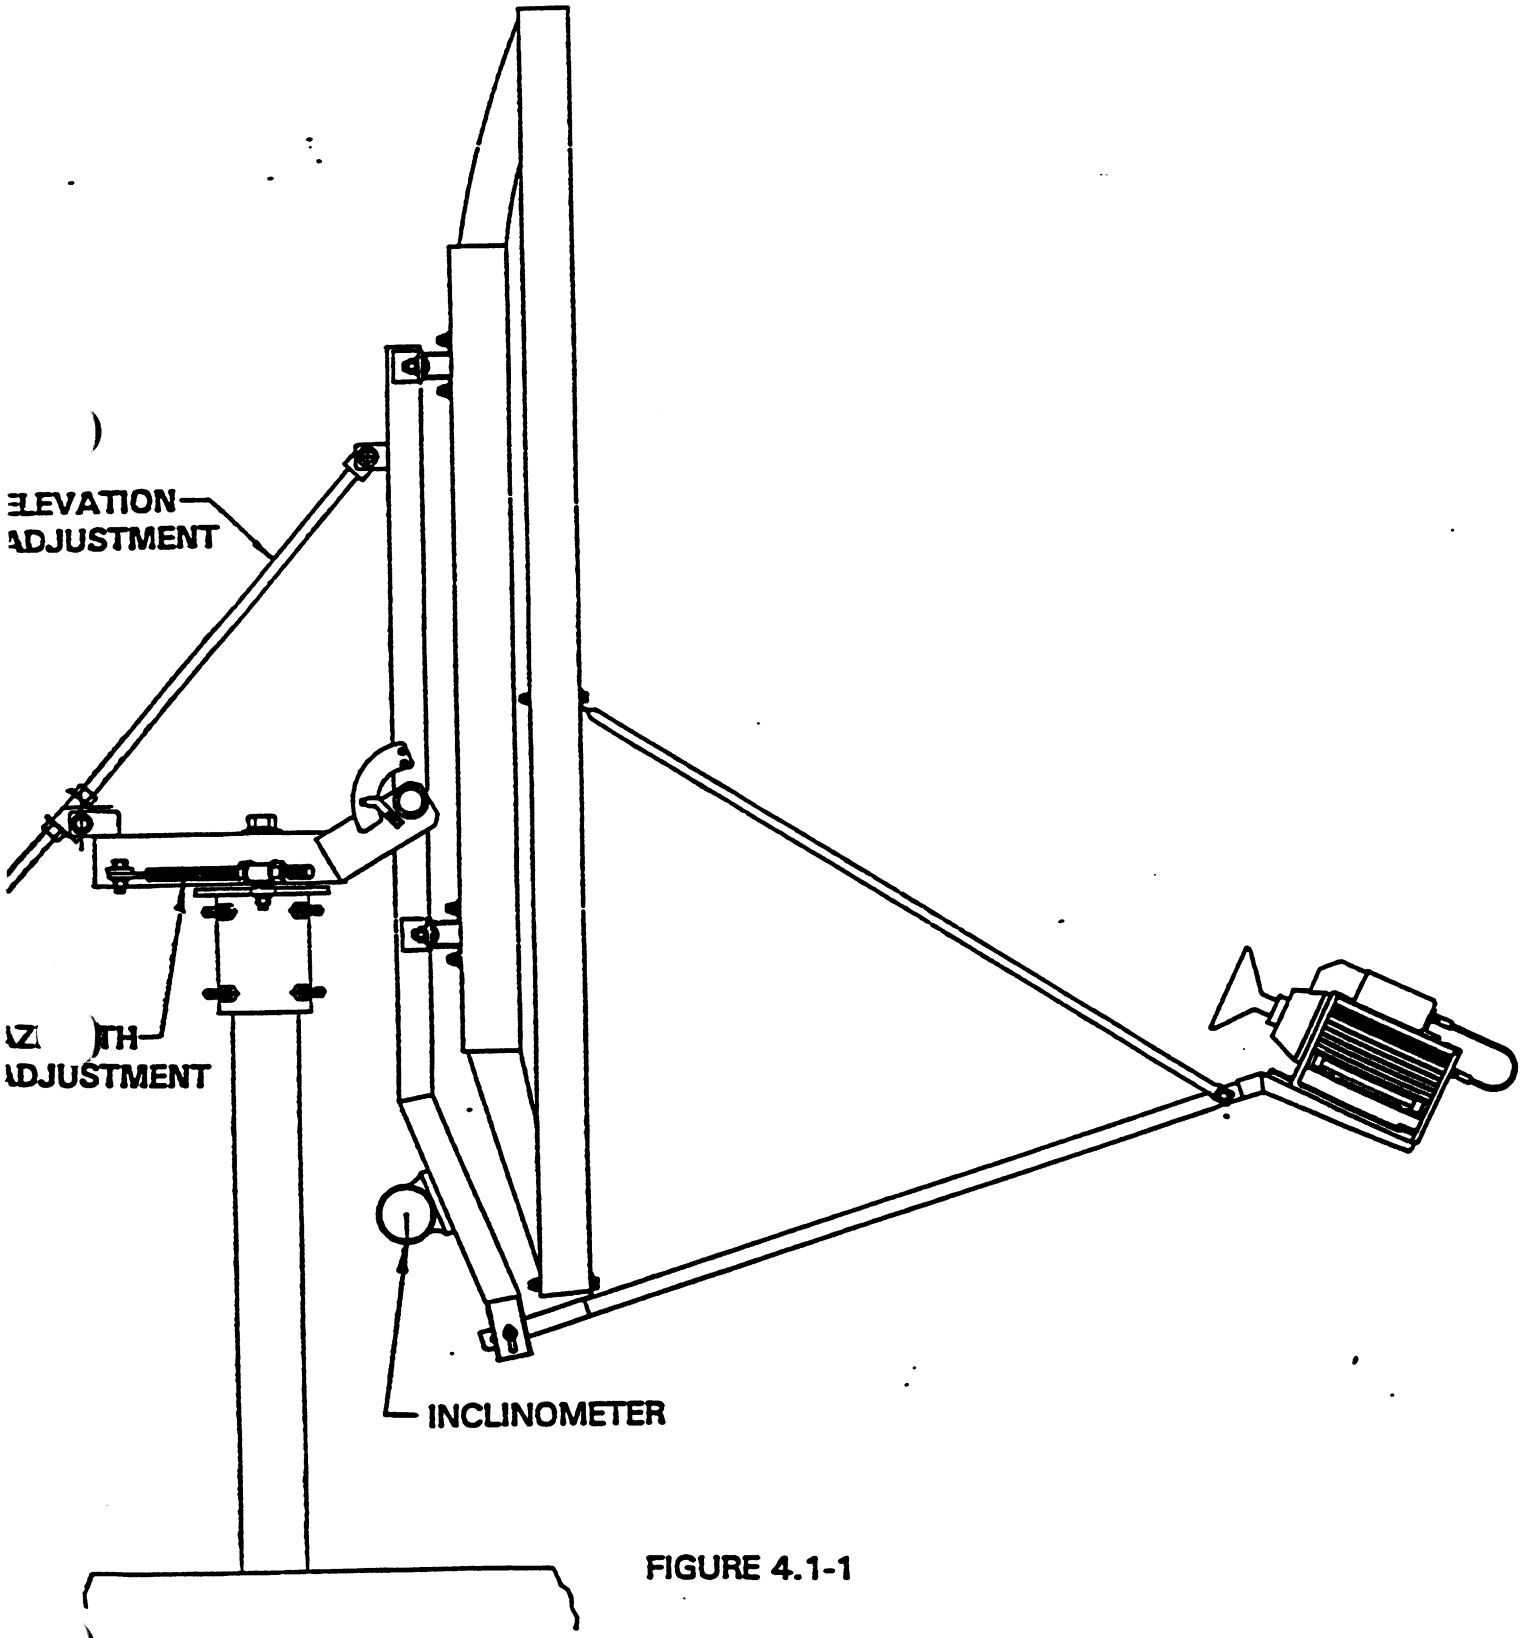

FIGURE 4.1-1
- 1) **Aligning to primary satellite:** Attach the inclinometer to the reflector support ring as shown in figure 4.1-1. This surface compensates for the 22.3° offset in the reflector, therefore a direct reading can be taken.
- 5) **Tighten the four (4) 3/4" nuts used for adjustments.**